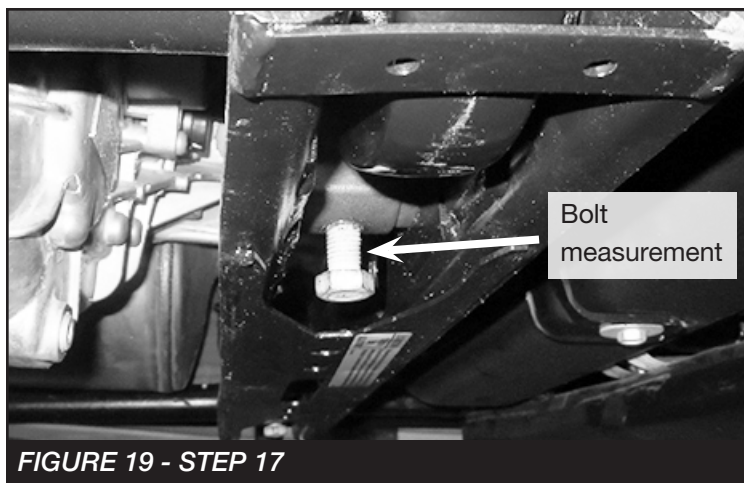

FIGURE 19 - STEP 17
17. Use **FIGURE BELOW** for torsion key bolt pre-adjustment. These measurements will be from the length of the thread left between the block and the bolt head. **NOTE: This is a starting point more adjustment may be required once vehicle is on the ground. SEE FIGURE 19.** Repeat steps on the opposite side.